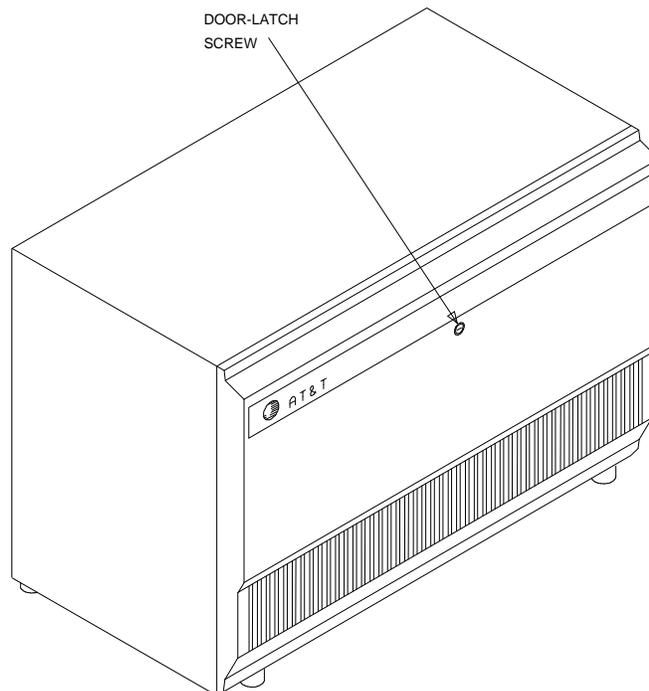

Figure 2-3. Location of Door-Latch Screw for G3i V4 Cabinet
1. Use a screwdriver, and turn door-latch screw counterclockwise one quarter turn to release door (see Figure 2-3).